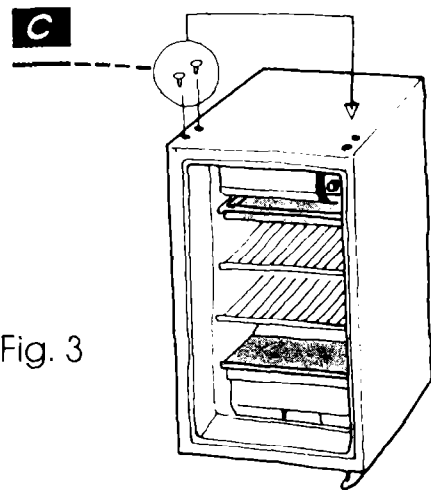

Fig. 3
- Remove plastic covers "C" (Fig. 3) and place them where screws "B" used to be.